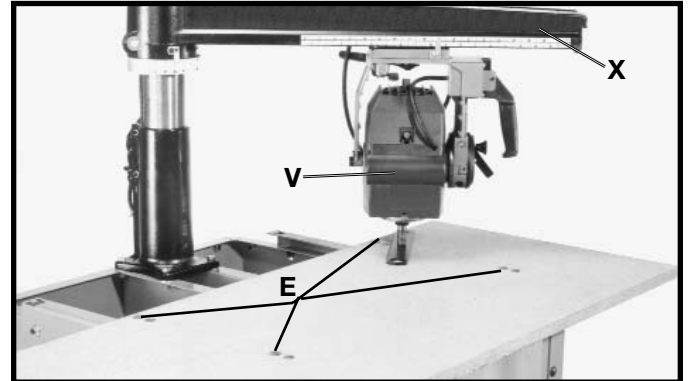
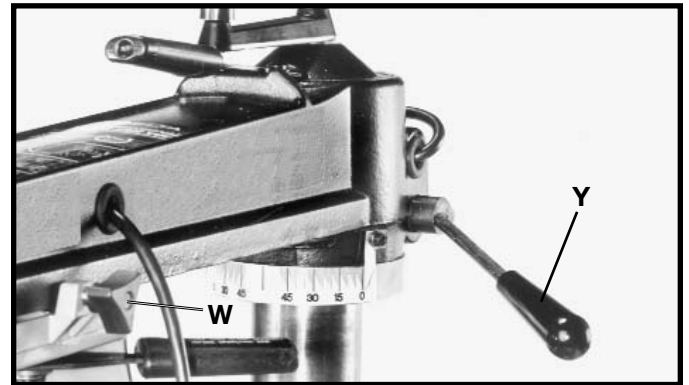
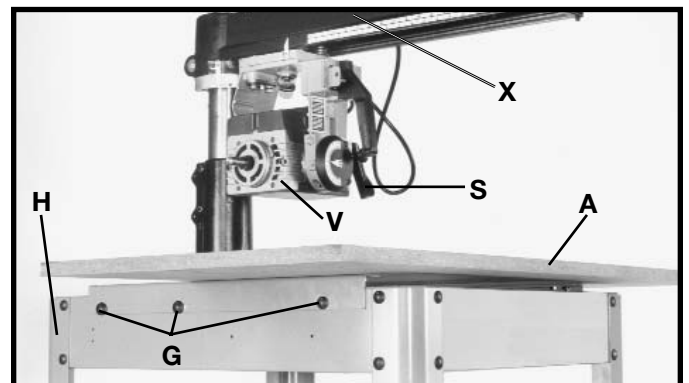

Fig. 26
Fig. 27
Fig. 28
12. Check the height of the table board above the other three table board adjustment screws (E) Fig. 26, by repositioning track arm (X), and cutting-head assembly (V) until the highest point of the table is determined. **NOTE: MAKE CERTAIN CUTTING-HEAD CLAMP KNOB (W) FIG. 27 AND TRACK ARM CLAMP HANDLE (Y) ARE TIGHTENED WHEN MOTOR SHAFT IS LOCATED ABOVE EACH OF THE ADJUSTMENT SCREWS. DO NOT CHANGE HEIGHT OF TRACK ARM (X) FIG. 26, UNTIL HIGHEST SCREW IS DETERMINED, AND ALL FOUR CORNERS OF THE TABLE BOARD HAVE BEEN ADJUSTED.**
13. Position the motor shaft back over the three lower corners of the table board and adjust the table adjustment screws (E) Fig. 26, until the arbor wrench fits accordingly between the arbor shaft and table board in each location.
14. Once the table board (A) Fig. 28, is properly adjusted, tighten three screws (G) on each side of saw base (H). Then return track arm (X) and motor (V) to the 90 degree position as shown, and tighten bevel clamp lever (S) and track arm clamp handle (Y) Fig. 27.